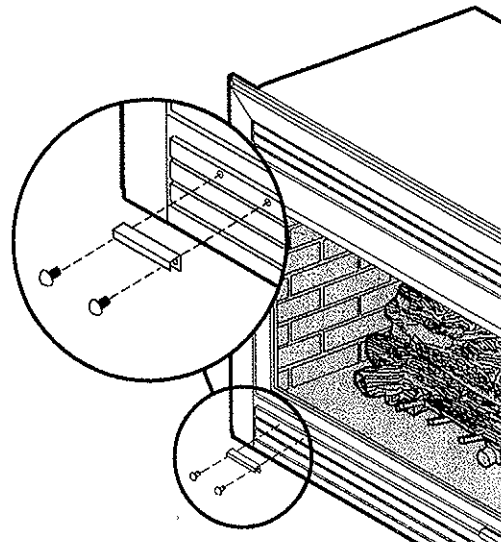

Figure 5
1. Align the door handles with the holes in the door frame. *Refer to Figure 5.*
2. Install the two (2) screws for each door handle which attach the door handle to the door frame assembly. *Refer to Figure 5.*